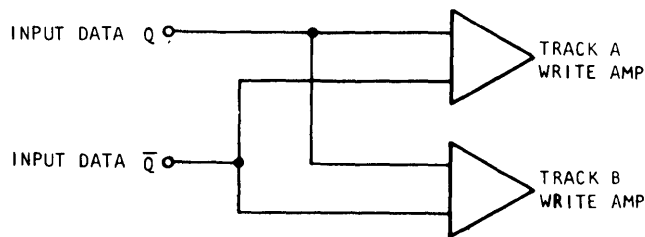

Figure 23. Redundant Write Connection
**Redundant Writing and Reading.** - The 6106 series transports are two track machines. Each track is capable of a low bit error rate, but this rate can be further reduced as a system consideration if redundant data recording and reading is used. This is achieved by connecting together the Q and  $\bar{Q}$  inputs to the track A and B write amplifiers as shown on Figure 23.